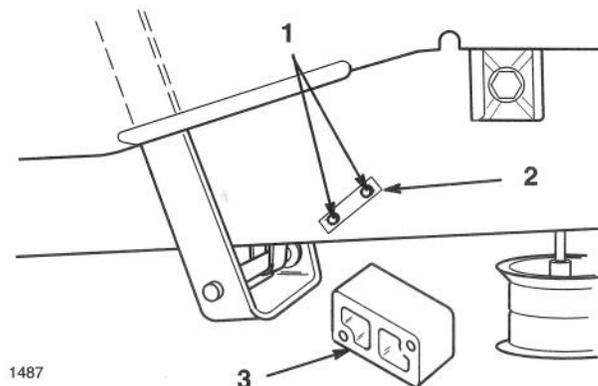

Figure 5
1. Using a small hammer, gently tap screws through Tinnerman nut until flush with frame (Fig. 5).
2. Remove screws, spacer and switch from frame (Fig. 5). Disconnect switch from wire harness connector. Discard switch, screws and Tinnerman nut.